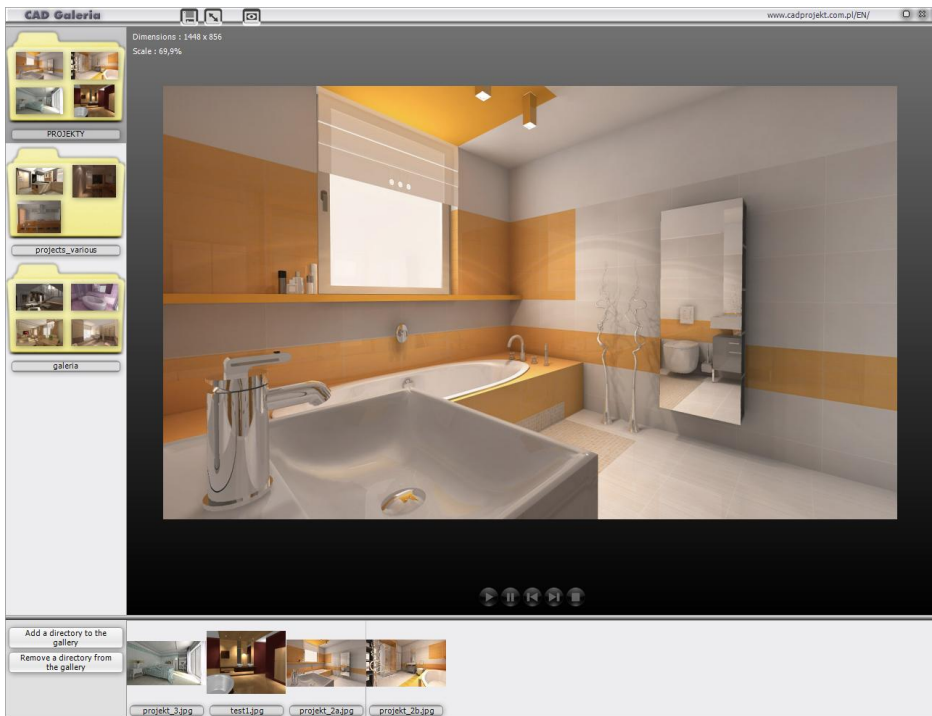

Fig. 311 – the Gallery module
- the directory will be added to the list on the left side of the **Gallery** dialog box (Fig. 311);